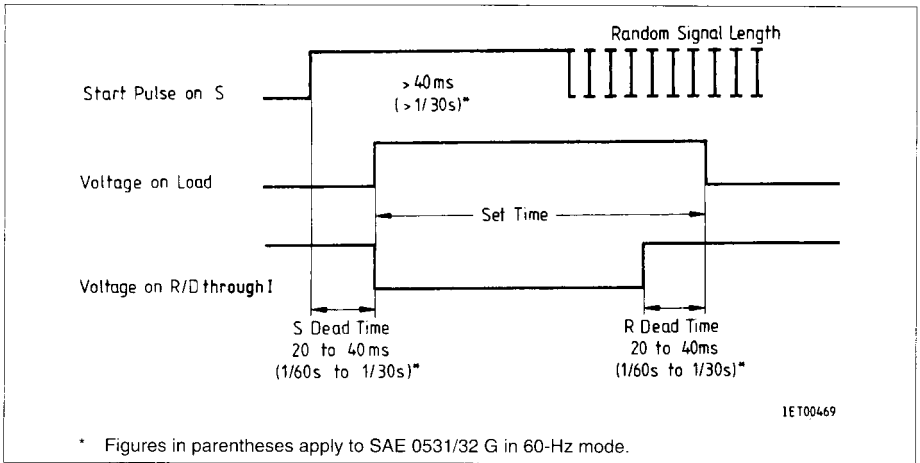

Figure 1
1. Turn-on interval DIN 46120 (figure 1)
Start of Time Measurement (Figure 1, 2)
Inputs N, S, R, FC, A, B, C (and CO)* have an internal pullup resistor, i.e. they are high if not wired. On start input S there are also clamping diodes to V_s and GND so that it is possible to start with external potential. Reset input R is usually connected to one or more of the open-collector outputs D through I, enabling cutout of the load and resetting of the counter when the set delay has elapsed. These outputs are turned off (R = H) in their basic state (after reset), conduct when the time measurement starts (R = L) and are turned off again (R = H) after the delay (**see Figure 1 and 2**).